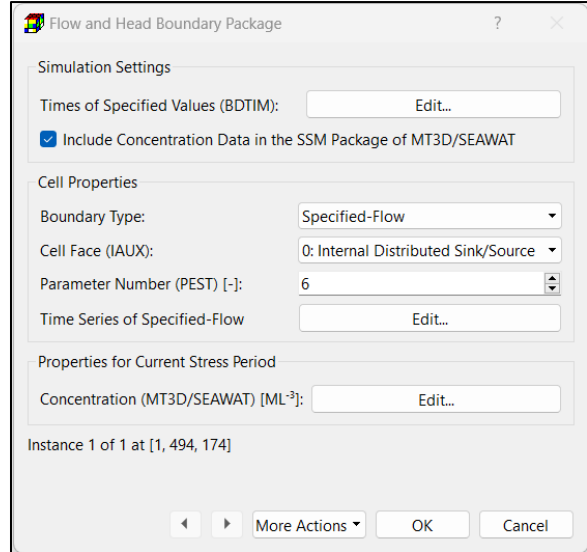
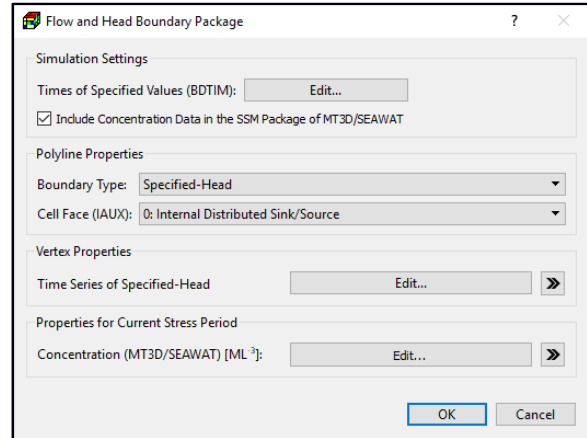
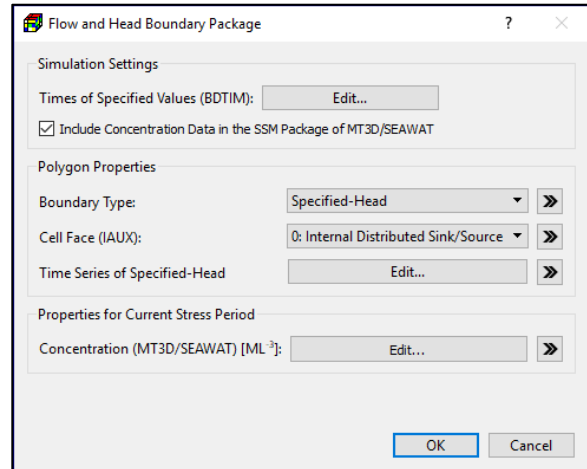

Figure 61. The Flow and Head Boundary Package dialog box for specifying cell properties
Figure 63. The Flow and Head Boundary Package dialog box for specifying vertex
Figure 64. The Flow and Head Boundary Package for specifying polygon properties
1. All input methods: The data entry dialog boxes (Figure 61, Figure 63, Figure 64) of all input methods include a Simulation Settings group that contains the following options:
2. **Cell-by-cell input method:** Figure 61 shows the dialog box for specifying one or more FHB1 instances to a model cell.
3. **Polyline input method:** Figure 63 shows the dialog box that is used to specify vertex/polyline properties.
4. **Polygon input method:** Figure 64 shows the dialog box that is used to specify polygon properties. These data may be applied to model cells following the rules described in Section 3.4.2.3.